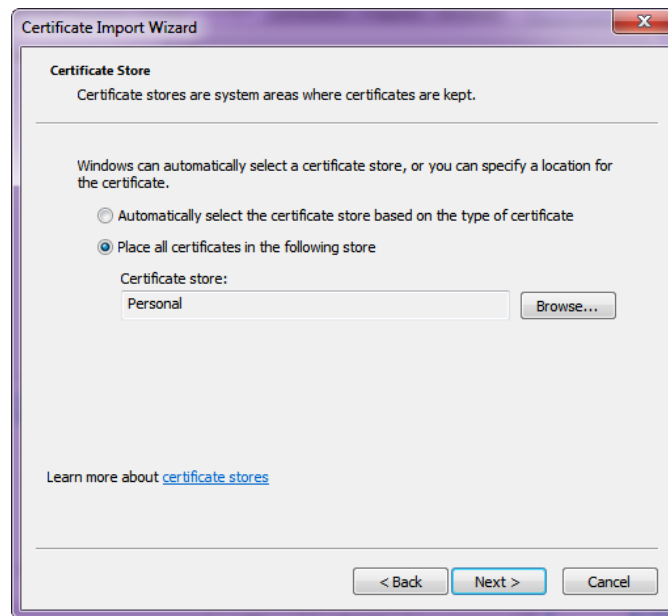

Figure 58: Certificate Store Selected
9. The Certificate Import Wizard updates to display your selection as shown in Figure 58. Click Next.